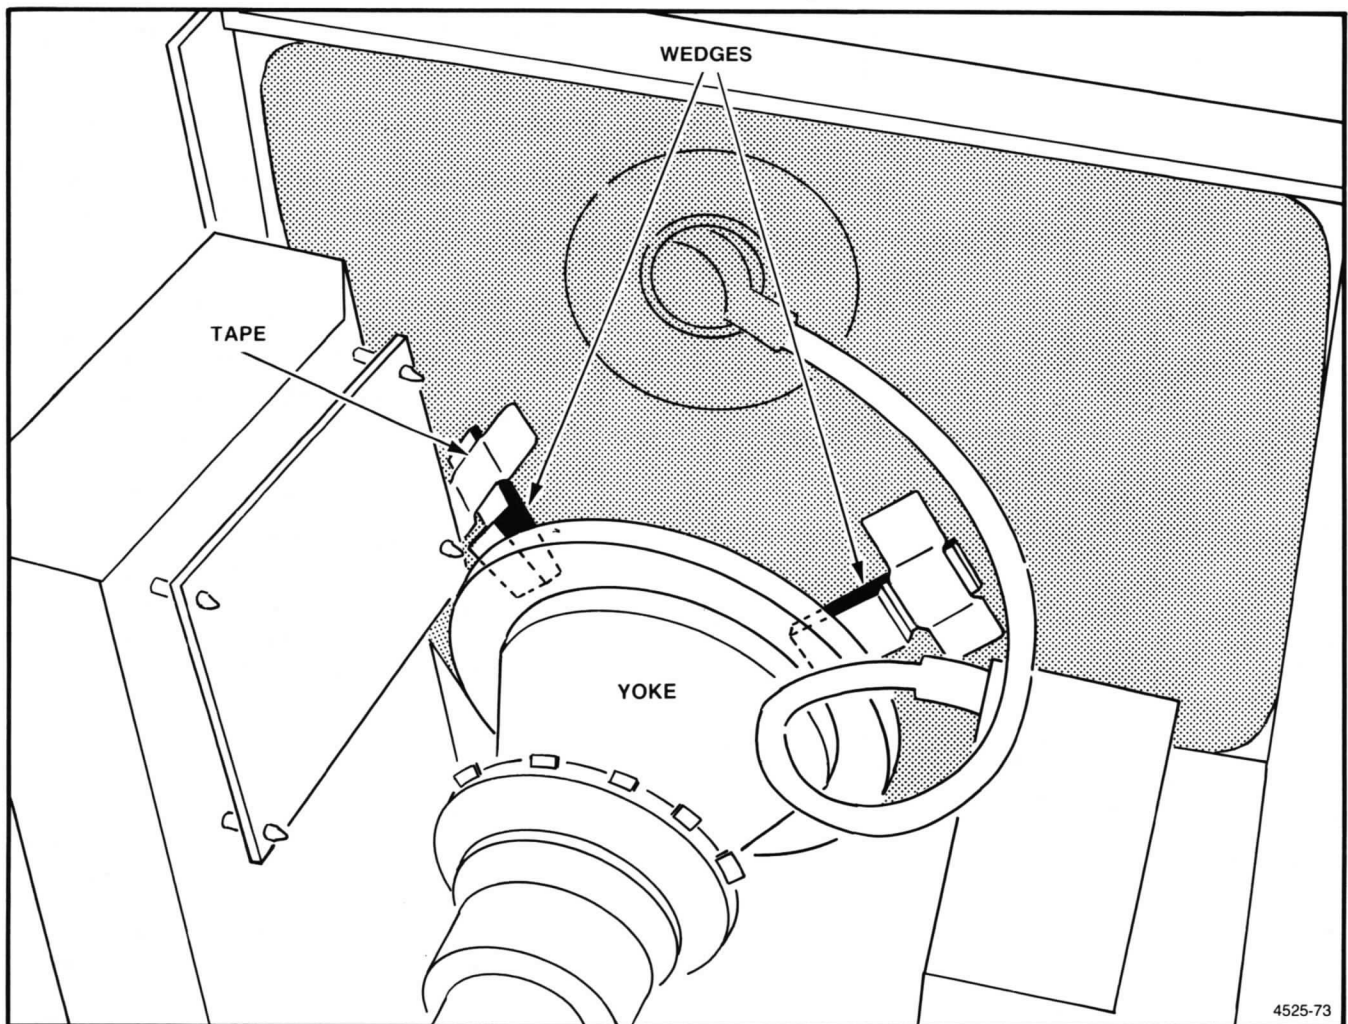

Figure 5-6. Placing Wedges between Yoke and CRT Funnel.
13. Tilting the yoke left-right or up-down affects convergence. Using the top two wedges, position the yoke to achieve the best overall convergence. (See NOTE.) Use RTV silicon compound to secure the wedges in position. See Figure 5-6.
Insert the wedges between the yoke and the CRT funnel, with the adhesive side touching the CRT. The adhesive will stick to the CRT. The wedges are placed 120 degrees apart; two on the top, and one on the bottom. See that the opening of the yoke is equidistant from the CRT all around the funnel (see Figure 5-6).